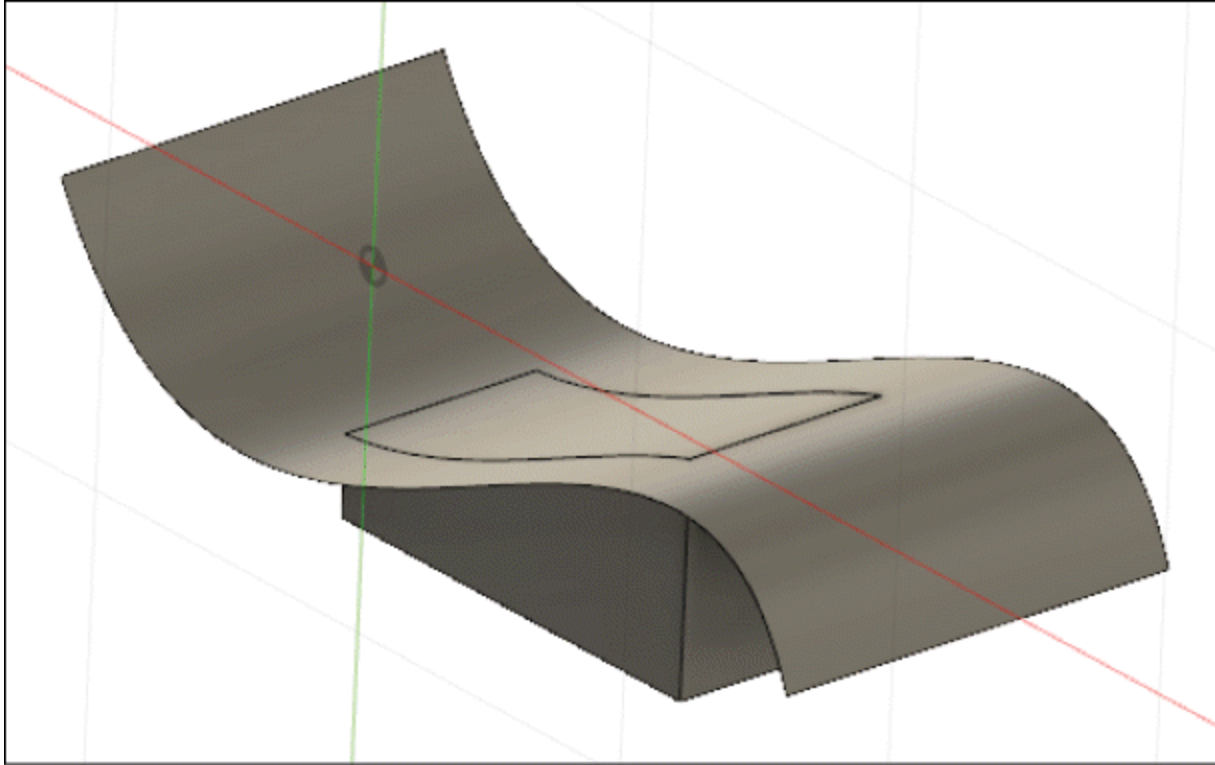

Figure-18. Selected area trimmed
- Click on the **OK** button from **TRIM** dialog box to trim the selected area; refer to Figure-18.